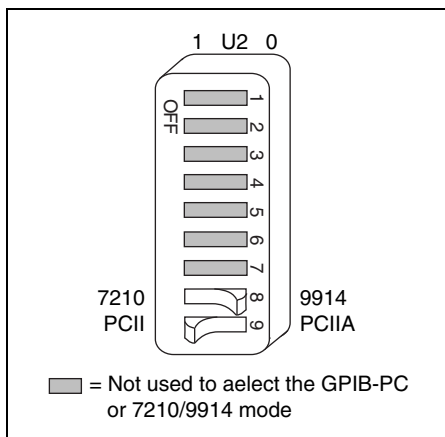

Figure 7. GPIB-PCIIA Mode Selection Setting
1. Examine switch 9 in switch block U2. (Click here to view the GPIB-PCII/IIA Parts Locator Diagram.) Press switch 9 down on the side labeled PCIIA, as shown in Figure 7.